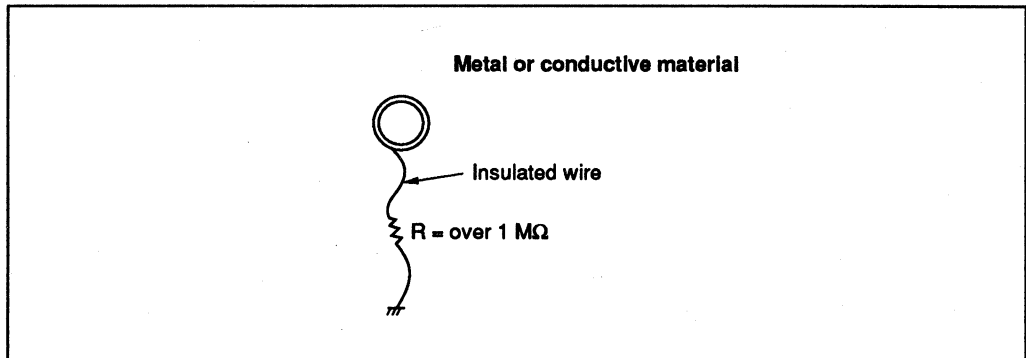

Figure 2 Personal Ground
3. Personnel should wear grounding bracelets on their arms or legs. To prevent electric shocks, insert a resistor of $1 M\Omega$ or greater in series as shown in figure 2.